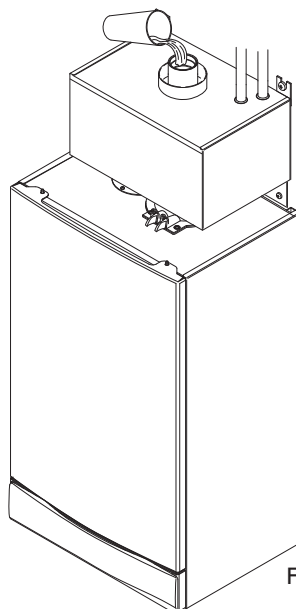

Fig. 8
8. To ensure correct and efficient operation the 'GasSaver' must now be primed (Fig. 8) by pouring 6 litres of clean cold water into the central spigot. **Do not allow any water to spill into the air chamber.**